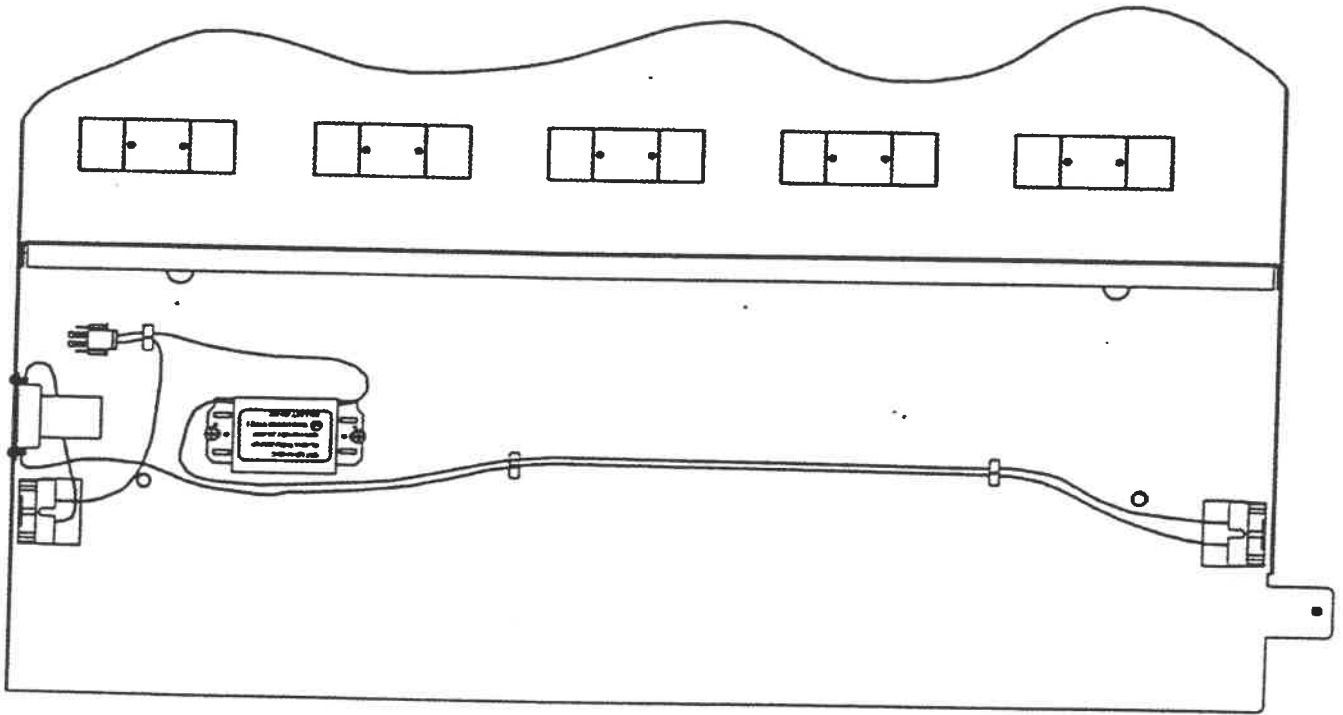

FIGURE 7
10. Fully insert the short lead from the ballast connector in the left side of the lampholder as shown in figure 7.
11. Fully insert the long lead of the ballast in the right side of the lampholder as shown in figure 7.
12. Fully insert the short lead of the starter base in the left side of the lampholder as shown in figure 7.
13. Fully insert the long lead of the starter base in the right side of the lampholder as shown in figure 7. Note: After installing all wires in the lampholders, verify that the wires are fully inserted and that no bare copper wire is exposed.
14. Carefully slide the wires in the wire retainers as shown in figure 7.